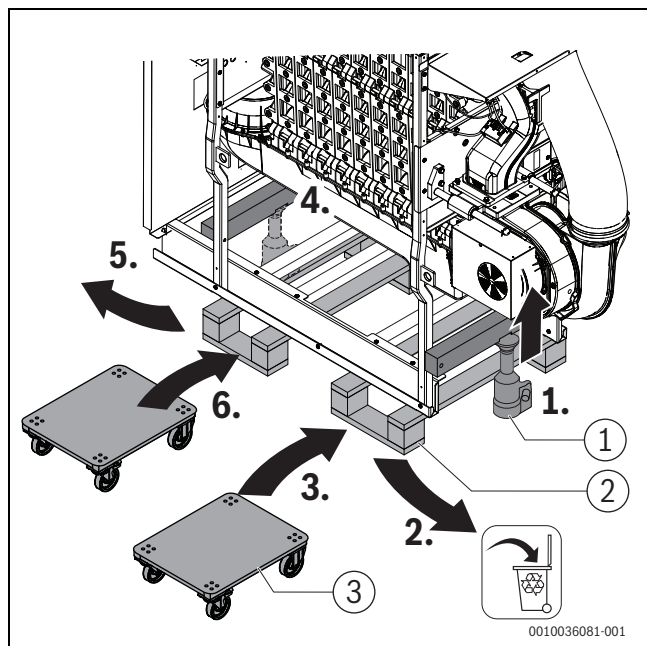

Fig. 14 Place the trolley jack underneath, push in the transport rollers (example for illustration purposes)
- Position a trolley jack (max. ground clearance 215 mm and min. lifting height 345 mm) under one of the cross bars on the boiler frame (→Fig. 14, step 1 – 3) and lift the boiler far enough so that a partial pallet can be removed.
- Position the trolley jack under the second cross bar (→Fig. 14, step 4 – 6) and lift the boiler far enough so that the second partial pallet can be removed.